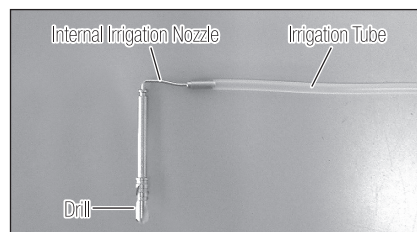

Fig. 15
3) Insert the Internal Irrigation Nozzle into the drill from the back (Fig 15).